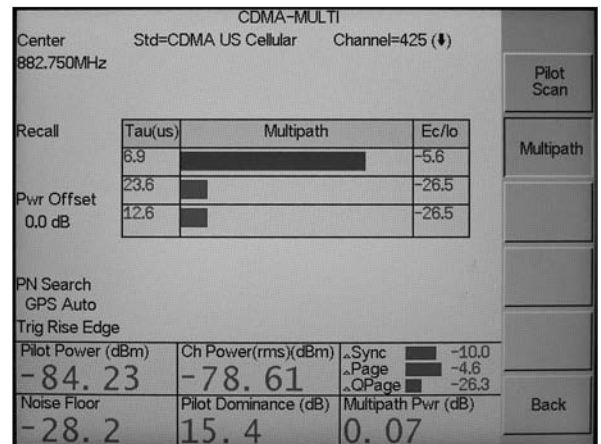

Figure 14. CDMA Multipath display.
12. Press Multipath soft key to display Multipath readings (Figure 14).